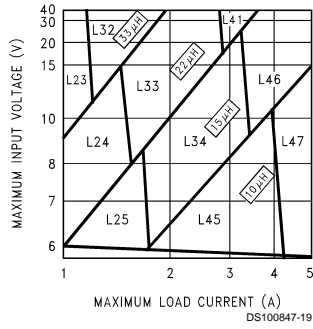
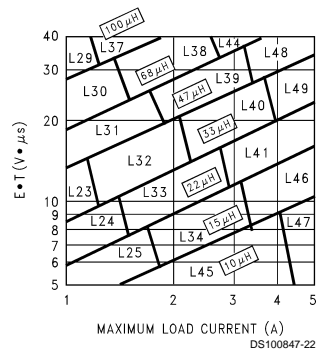

FIGURE 3. LM2679-3.3
FIGURE 6. LM2679-ADJ
**Step 3:** Determine the inductor required by using one of the four nomographs, *Figure 3* through *Figure 6*. Table 1 provides a specific manufacturer and part number for the inductor.
**Step 5:** Determine an input capacitor from Table 4 for fixed output voltage applications. Use Table 2 to find the specific capacitor type. For adjustable output circuits select a capacitor from Table 2 with a sufficient working voltage (WV) rating greater than  $V_{in\ max}$ , and an rms current rating greater than one-half the maximum load current (2 or more capacitors in parallel may be required).
**Step 3:** Use the nomograph for the 3.3V device, *Figure 3*. The intersection of the 16V horizontal line ( $V_{in\ max}$ ) and the 4A vertical line ( $I_{load\ max}$ ) indicates that L46, a 15 $\mu$ H inductor, is required.
**Step 3:** To use the nomograph for the adjustable device, *Figure 6*, requires a calculation of the inductor Volt•microsecond constant (E•T expressed in V• $\mu$ s) from the following formula:
Using *Figure 6*, the intersection of 27V• $\mu$ s horizontally and the 3.5A vertical line ( $I_{load, max}$ ) indicates that L48, a 47 $\mu$ H inductor, or L49, a 33 $\mu$ H inductor could be used. Either inductor will be suitable, but for this example selecting the larger inductance will result in lower ripple current.
**Important Note:** When using the adjustable device in low voltage applications (less than 3V output), if the nomograph, *Figure 6*, selects an inductance of 22 $\mu$ H or less, Table 6 does not provide an output capacitor solution. With these conditions the number of output capacitors required for stable operation becomes impractical. It is recommended to use either a 33 $\mu$ H or 47 $\mu$ H inductor and the output capacitors from Table 6.